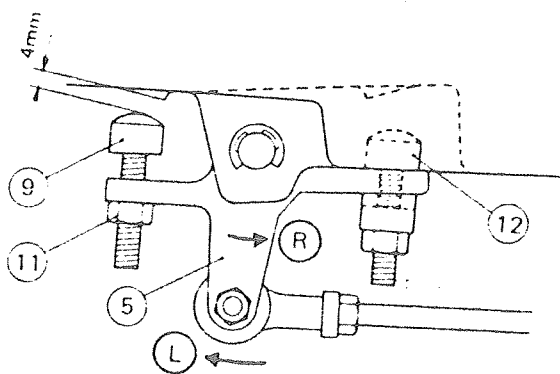

Fig. 28
- 2) Adjust stopper 9 temporarily so that the clearance between it and oil pan is 4 mm (5/32"). (Fig. 28)
- 4) Reset stopper 9 from its temporary position, raising it approximately 2 mm (5/64"), and tighten locknut 11. (Fig. 28 & 29)